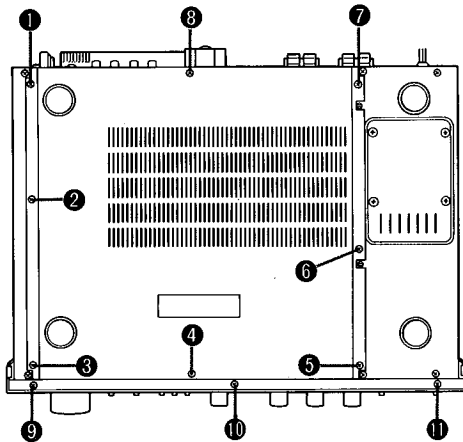
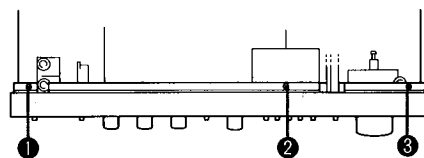

Fig. 2
Fig. 3
Remove the screws ① to ⑧ in Fig. 2 and then remove the cabinet bottom.
1. Remove the cabinet top. (Refer to step ①)
3. Remove the screws ⑨ to ⑪ in Fig. 2 and ① to ③ in Fig. 3 and then remove the front panel assembly.